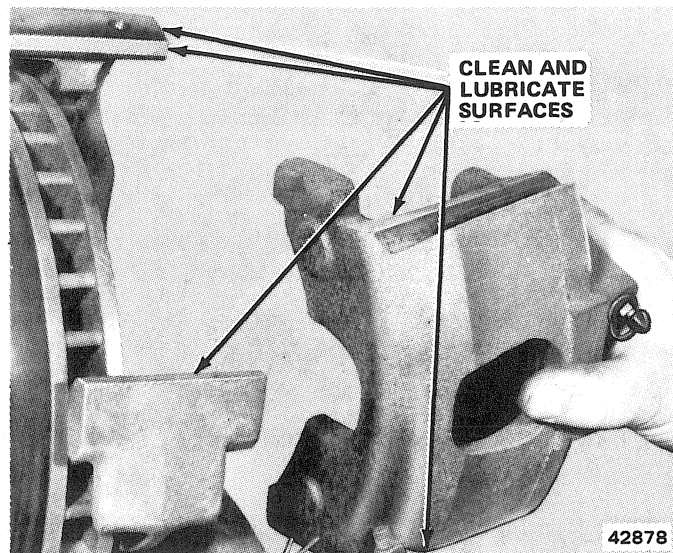

Fig. 2G-50 Abutment Surfaces
(14) Inspect caliper for evidence of leakage from piston bore. If leakage is evident, overhaul caliper. Refer to Caliper Overhaul—CJ Models.
(15) Inspect abutment (sliding) surfaces of caliper and anchor plate for rust or corrosion (fig. 2G-50). Clean these surfaces using stiff wire brush and fine grit sandpaper and lubricate them with molydisulphide grease.
(16) Install inboard brakeshoe anti-rattle spring on rear flange of inboard brakeshoe. Be sure looped section of spring faces away from rotor (fig. 2G-51).
(17) Install assembled inboard brakeshoe and anti-rattle spring in caliper anchor plate (fig. 2G-49). Do not dislodge anti-rattle spring during shoe installation.